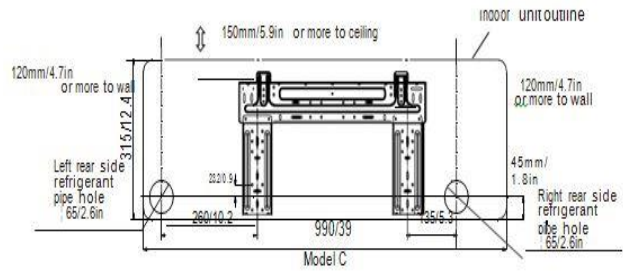
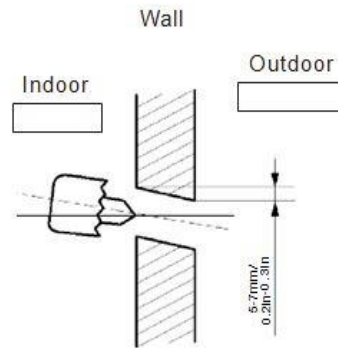

Fig.5
Fig.6
4. Determine the hole positions according to the diagram detailed in fig. 5. Drill (1) hole (65mm/2.6 in.) slanting slightly to the outdoor side. Fig. 6